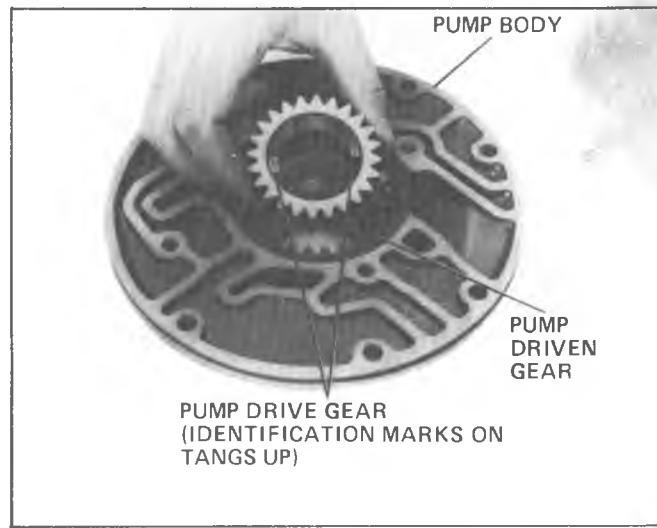

Fig. 7A-129A--Removing Pump Drive Gear
**NOTE:** Driven gear identification marks should have been against the pump body gear pocket. (See Fig. 7A-133A for identification.) The drive gear has 1 identification mark on each drive tang (Fig. 7A-129A).